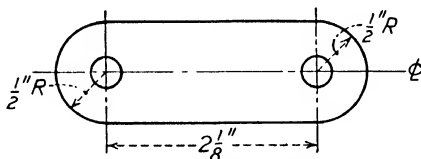

Fig. 133.—Washer plate with 2 holes drilled  $\frac{5}{16}$  in. in diameter.
5. Make a full-scale drawing of this fitting shown in Fig. 133.